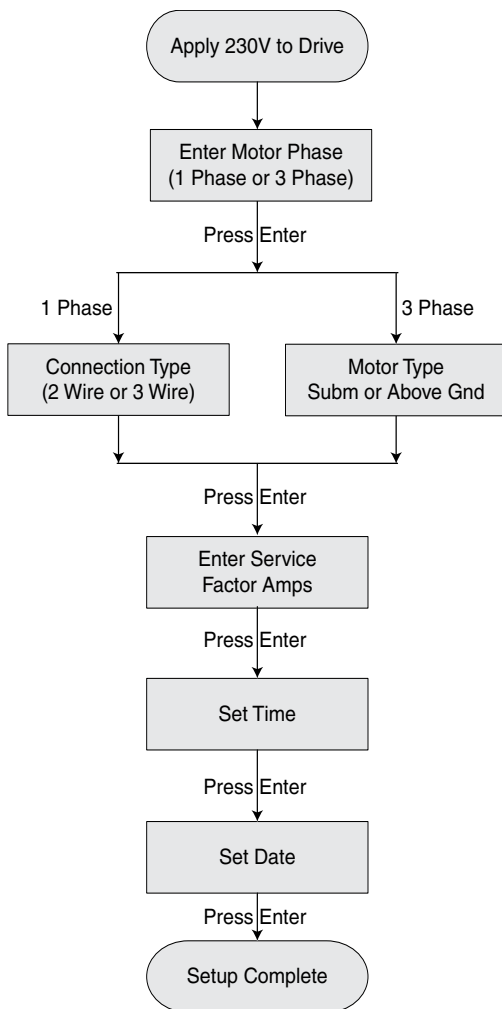

Figure 10 - Drive Setup Guide.
1. **Program the Drive:** Apply power to the Pentek Intellidrive. Setup Guide will appear in the display. Follow keypress sequence shown in Figure 10.